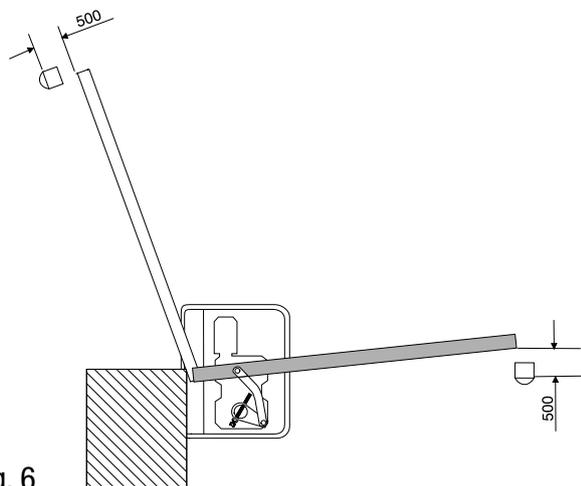

Fig. 6
- At this point do a first adjustment of the (endstop) microswitches, positioning them close to the magnet. Consider that this type of endstop reads the magnetic field. You may have to repeat the procedure to increase the precision of the adjustment (fig. 6/7);